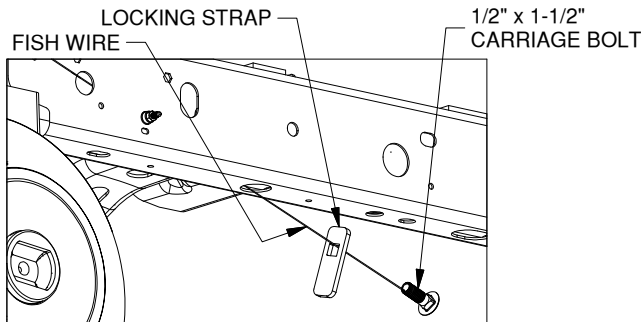

Figure B2: View looking at driver side frame under bed.
2. **Thread fish wire through frame.** Insert the coil end of the fish wire into the 1" round hole and fish it through the frame towards the rear of the truck and out the larger hole in the bottom of the frame. Pass the locking strap onto the fish wire and attach the coil end of the fish wire to the carriage bolt. To keep the hardware from getting hung up inside the frame, the locking strap and the bolt need to go through the frame separated, not with the bolt through the square hole in the strap, see Figure B2.